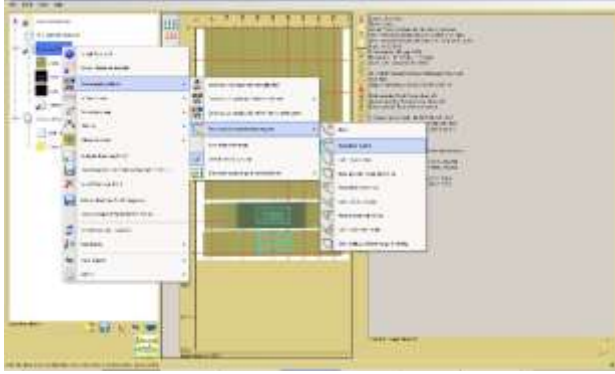
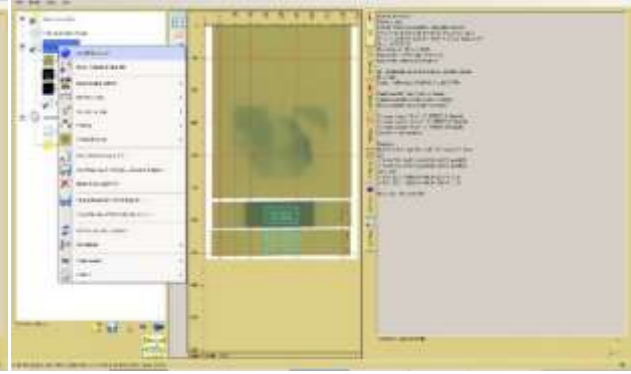

Figure 7A
Figure 7B
12. Right click on "Dose map single scan" and select "Dose mapping method", "Recalibration using reference regions" and "Dose linear scaling" (Figure 7A). Again, right click on "Dose map single scan" and select "Rebuild Dose Map" (Figure 7B).